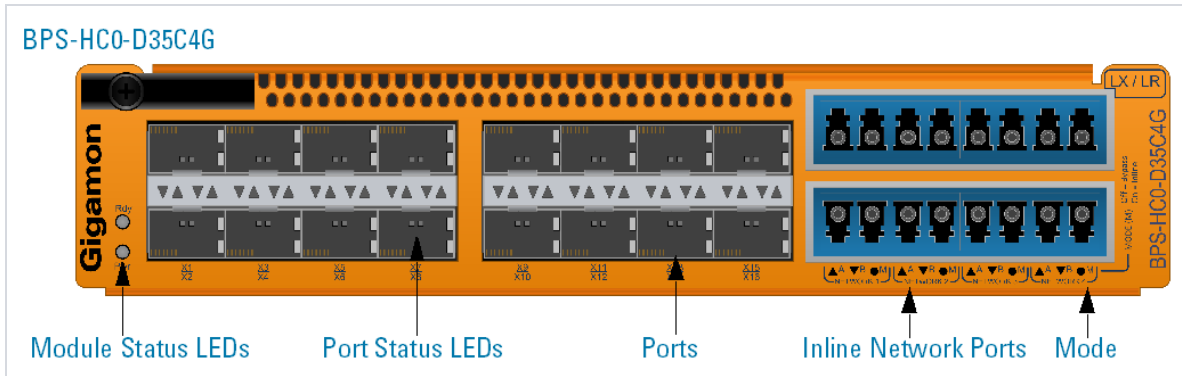

Figure 15: Bypass Combo Module BPS-HC0-D35C4G
- Bypass Combo Module with four LX/LR (singlemode) inline network port pairs and sixteen regular SFP+ port cages (BPS-HC0-D35C4G) (Figure 15: Bypass Combo Module BPS-HC0-D35C4G on page 23)